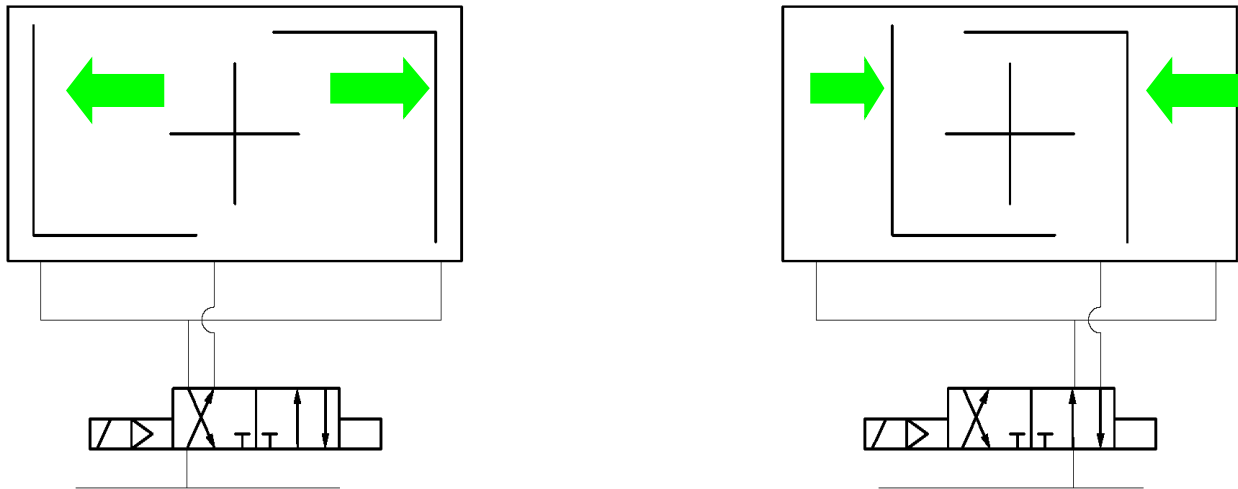

Figure 1: Fig. 1: Schematic diagrams for double-acting actuators EBx.1 SYD
- ▶ double-acting actuators EBx.1 SYD are shown in Fig. 1